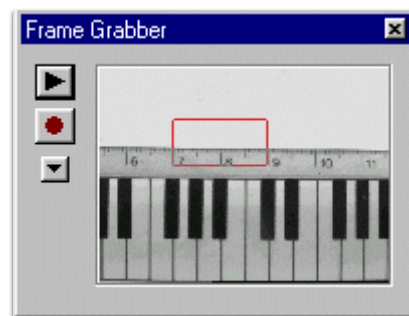

Figure 4.34 Calibration rectangle
3. Click and drag in the main window to select a rectangle that overlay the object (or reticule) in such a way that the dimensions of the object can be matched to those of the rectangle (fig. 4.34). Note that this rectangle is red. If the rectangle is incorrectly drawn, simply redraw it until you are satisfied with its size and position. A calibration only needs to be performed in one dimension (usually horizontal or vertical), if the dimensions of the image are isotropic.